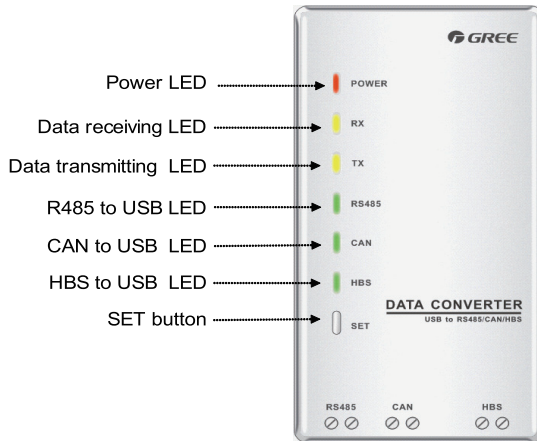

Fig.1 Front View of the Data Converter
As shown in Fig.1, the red LED is the power indicating LED. When the LED lights on, it indicates the data converter is energized normally; when the LED lights off, it indicates the data converter is not energized or energized improperly.
As shown in Fig.1, two yellow LEDs are the data receiving (RX) and data transmitting (TX) indicating LEDs respectively. When the PC is transmitting data to the air conditioning unit, the TX LED will flash, when the air conditioning unit is transmitting data to PC, the RX LED will flash.
As shown in Fig.1, three green LEDs are the communication mode indicating LEDs.